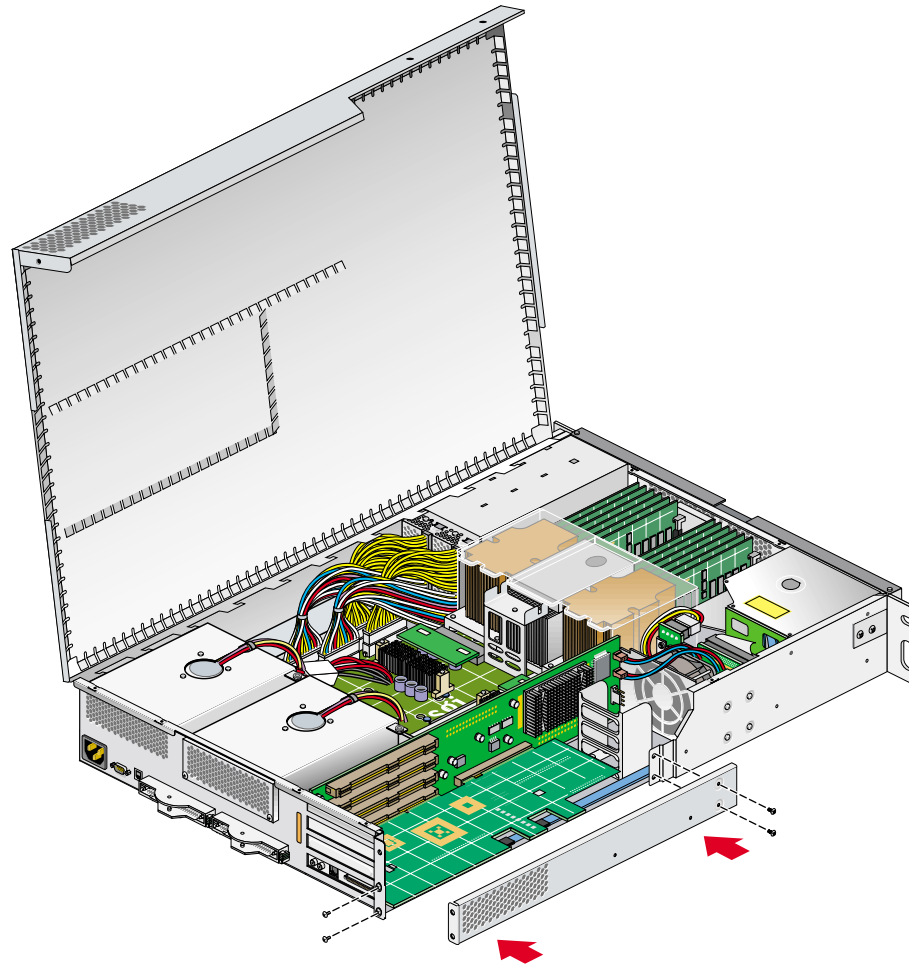

Figure 4-8 Replacing the Lower PCI/PCI-X Support Bracket
12. If you have installed a card in one of the two bottommost card slots, replace the lower PCI/PCI-X support bracket that covers the two bottommost slots and screw in the four Phillips screws, as shown in Figure 4-8.